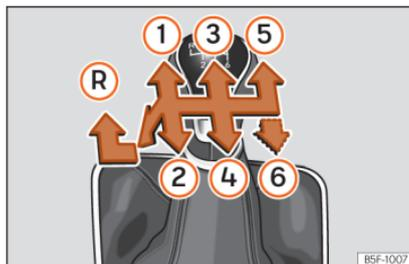

Fig. 55 Gear shift pattern of a 5 or 6-speed manual gearbox.
The position of the gears is indicated on the gearbox lever »» Fig. 55.
go and then forwards to select reverse »» Fig. 55 (R).